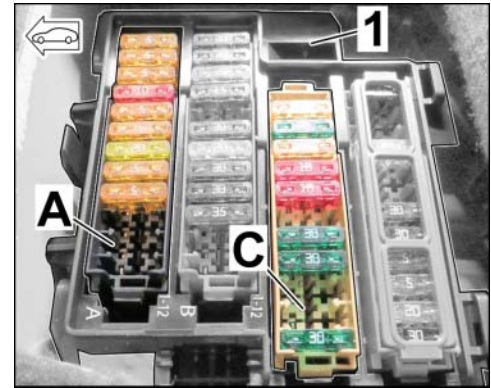

Figure 16 (as of MY 18)
3.3.3 Connect power supply as shown in the table (⇒ *Figure 16 (as of MY 18)*).
3.3.5 Protect the front camera power supply with new fuses (⇒ *Figure 16 (as of MY 18)*).